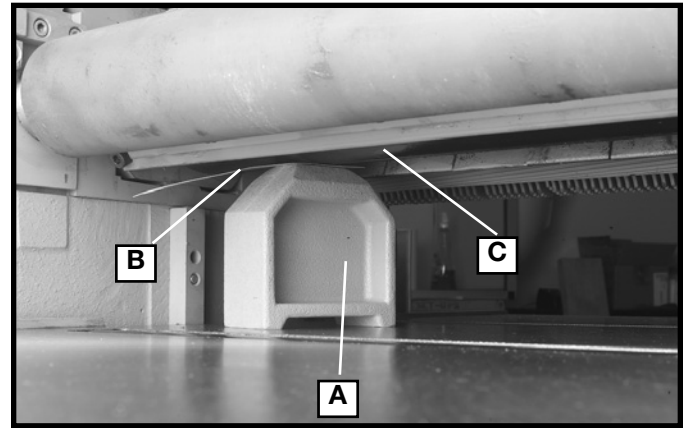

Fig. 29
4. Place the guage block (A) Fig. 29, on the table directly underneath the cutterhead as shown. To adjust the chipbreaker, place a .040" feeler gauge (B) Fig. 29, on top of the guage block and raise the table until the knife (C) just touches the feeler guage when the knife is at its lowest point.